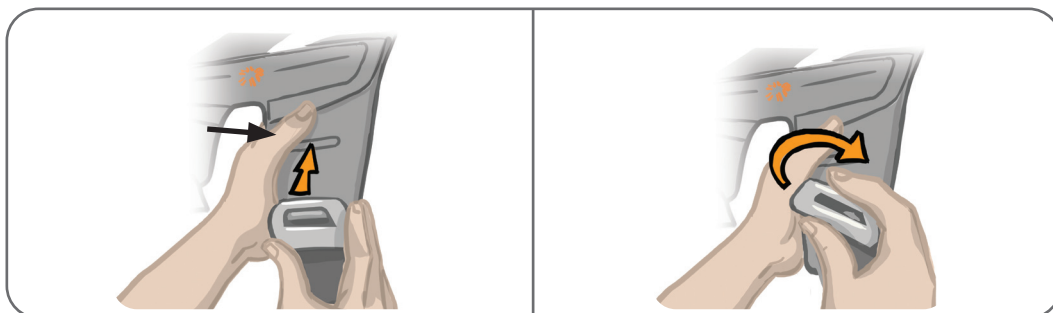

Figure 8-13: Removing the Thigh Straps
1. Push the attached thigh strap buckle toward the Thigh Cuff while making a twisting motion. See Figure 8-13.